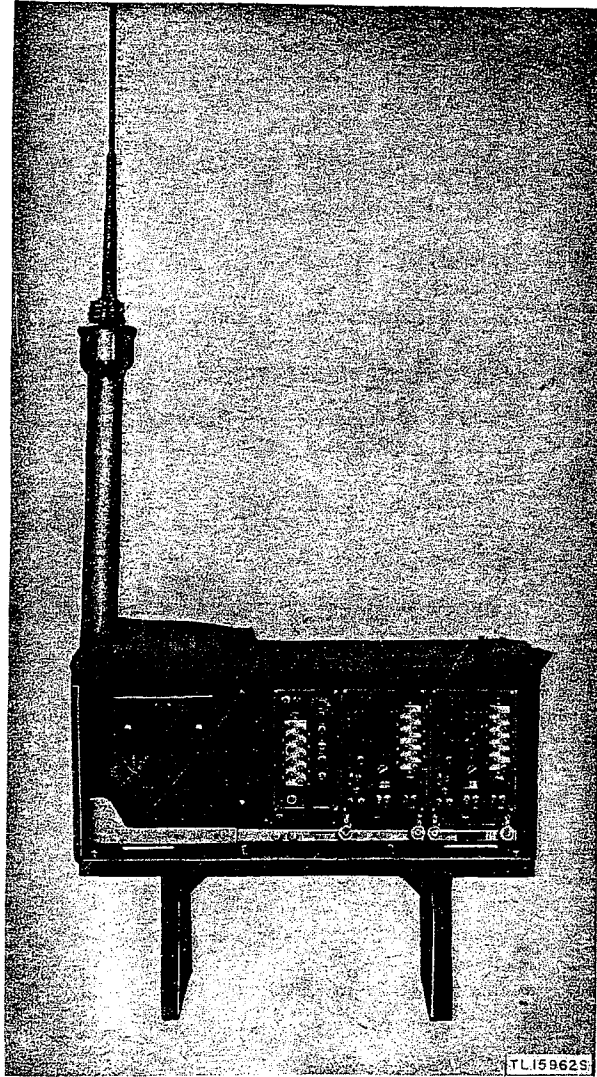

Figure 1. Radio Set SCR-508-().*
a. Radio Sets SCR-508-(*), SCR-528-(*), and AN/VRC-5 provide frequency-modulated (f-m) radiotelephone facilities. The radio sets may be installed and operated in combat vehicles such as tanks, scout cars, half-tracks, and command cars, or any other authorized vehicles (fig. 1).